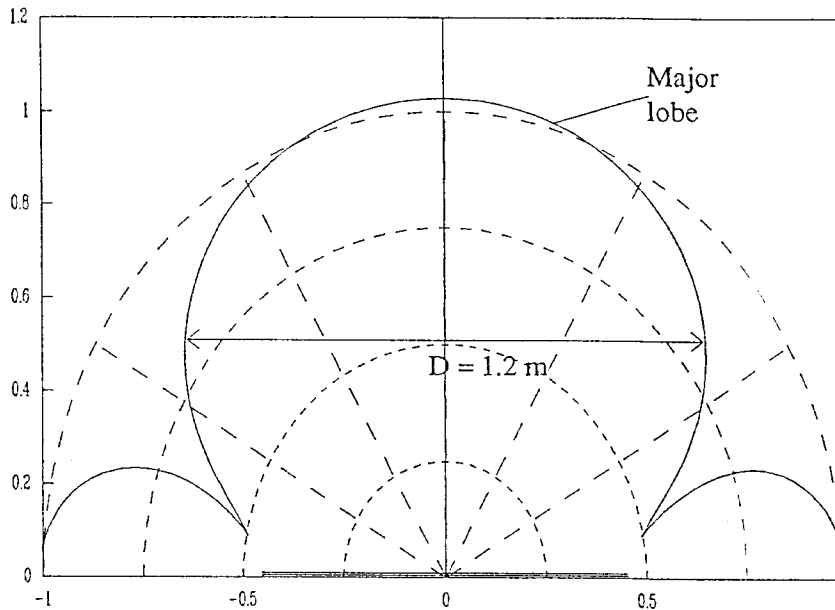

Figure 11: Maximum transponder speed
For applications when the transponder to be read is moving, the readout length is important (see D on figure 11). You can calculate the worst case maximum speed of the transponder past the antenna. This is based on the dimension of the major lobe as shown in figure 11.
2. Make an intersection at the place where the transponder crosses the major lobe. Determine the distance between the 5 Volt boundaries of the major lobe (D on figure 11).
**Example:** (Refer to figure 11)    Antenna is G03C,